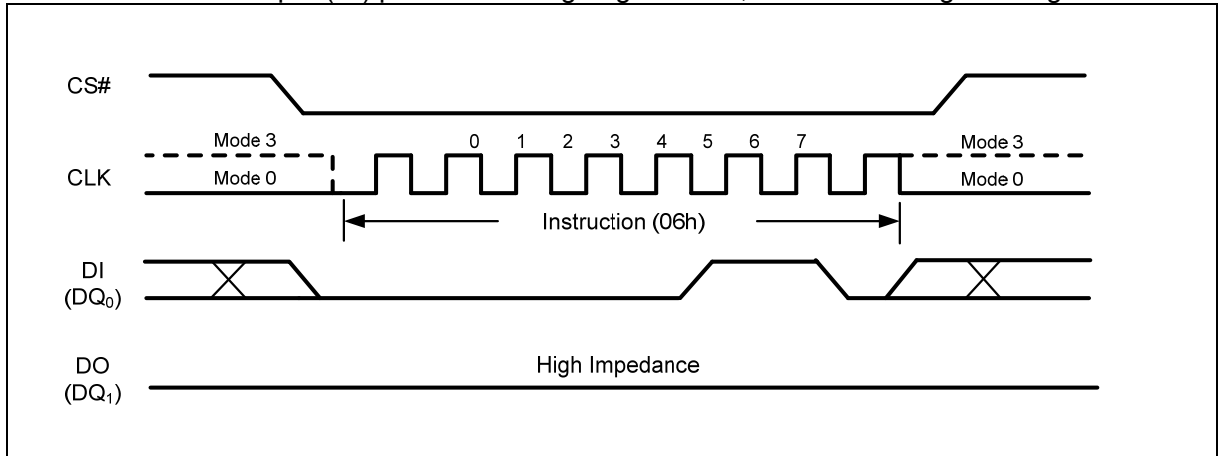

Figure 4 Write Enable Instruction
Instructions vary in length from a single byte to several bytes and may be followed by address bytes, data bytes, dummy bytes (don't care), and in some cases, a combination. Instructions are completed with the rising edge of edge CS#. Clock relative timing diagrams for each instruction are included in Figure 4 through Figure 26. All read instructions can be completed after any clocked bit. However, all instructions that Write, Program or Erase must complete on a byte boundary (CS# driven high after a full 8-bits have been clocked) otherwise the instruction will be ignored. This feature further protects the device from inadvertent writes. Additionally, while the memory is being programmed or erased, or when the Status Register is being written, all instructions except for Read Status Register will be ignored until the program or erase cycle has completed.
The Write Enable (WREN) instruction (Figure 4) sets the Write Enable Latch (WEL) bit in the Status Register to a 1. The WEL bit must be set prior to every Page Program, Sector Erase, Block Erase, Chip Erase, Write Status Register and Erase/Program Security Sectors instruction. The Write Enable (WREN) instruction is entered by driving CS# low, shifting the instruction code “06h” into the Data Input (DI) pin on the rising edge of CLK, and then driving CS# high.